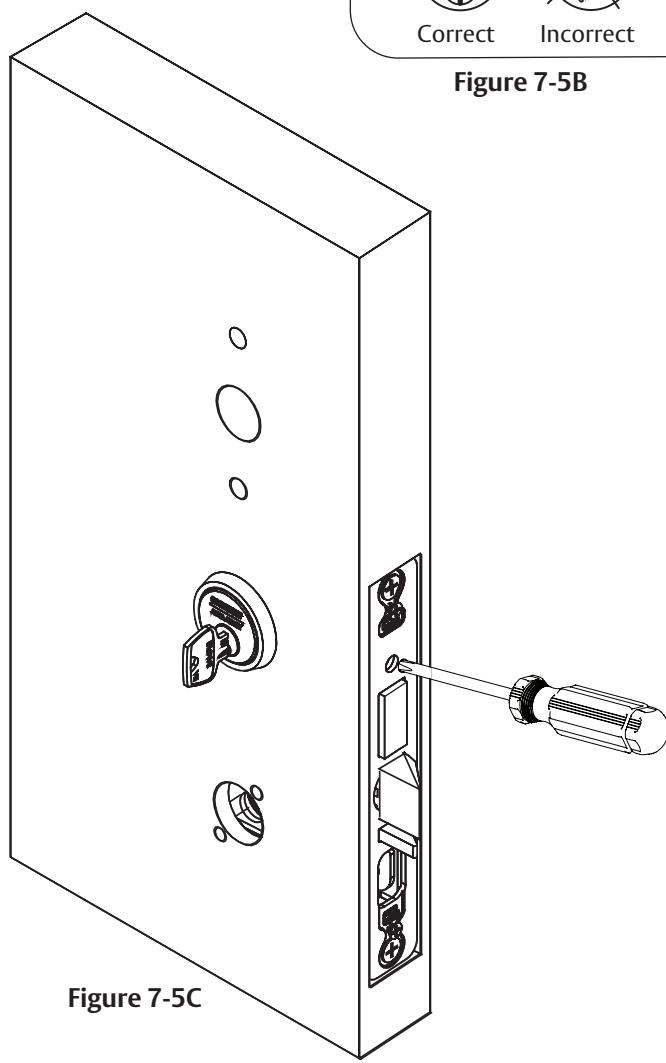

Figure 7-5C
5. Hand tighten the cylinder clamp screw with Phillips screwdriver to prevent unscrewing of the cylinder. (Figure 7-5C)